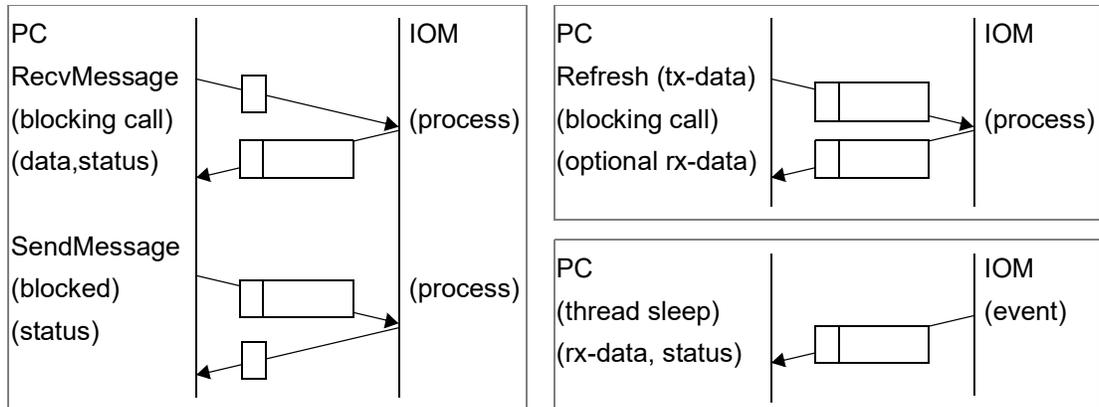

Figure 2-1 Immediate (left), VMap (top right), aEvent (lower right)
The DNx-ARINC-664 board can send or receive messages in three ways: (1) Immediate mode; (2) Variable Data Map or VMap+; (3) Asynchronous mode. The difference between the modes is described below with code snippets in the following sections. **Figure 2-1** is provided for reference:
- f. refresh (see Figure 2-1)
The DaqBios command for VMap Refresh has the process shown in Figure 2-1 and the packet format shown in Figure 2-2: